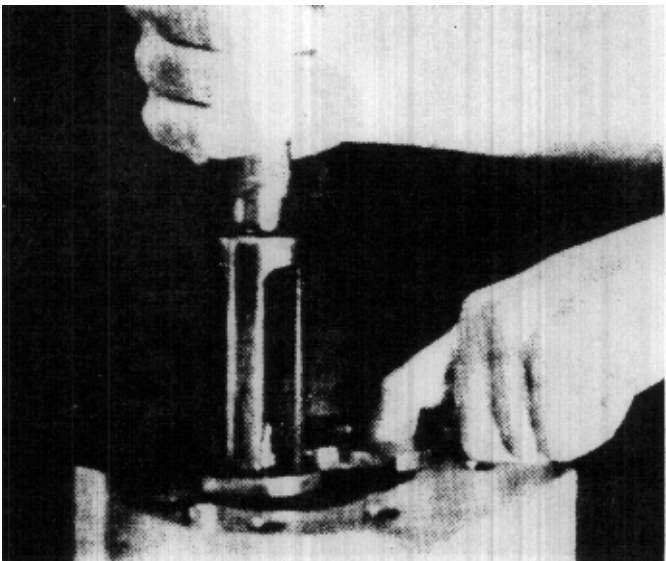

FIGURE 82
11. To remove the bottom pressure plate (9) (13, in SPM25) from the motor body, use an adjustable sleeve bearing puller. (A puller of this type is listed in McMasters and Carr's catalog under part number 6354N14). Insert the puller in the pressure plate bore. With a very light rocking motion applied to the puller handle, unseat the plate. Lift it straight up and out of the motor body. Use extreme care in the removal of this plate. Do not attempt to pry or force it. (Fig. 82)